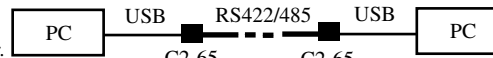

Fig.4:point to point connection
2) For point to point connection over Rs485 line up to 2 Mbi/sec over 1500 m. distance for RS422 full duplex operation.(Fig 4)